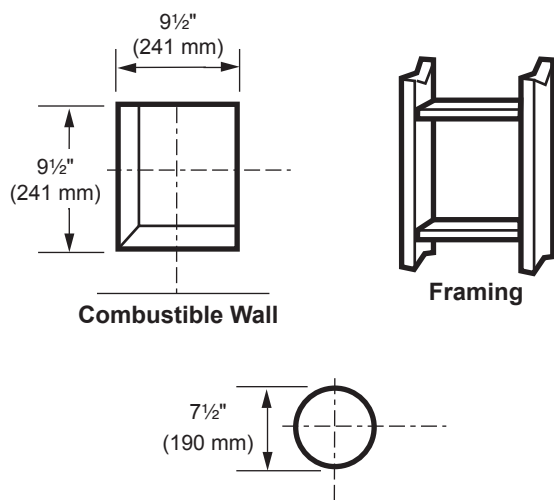

Figure 26 -
Combustible Exterior Walls: Cut a 9½"H x 9½"W (241 x 241 mm) square hole through the exterior wall frame. *Figure 26*
2. The center of the hole should align with the center line of the horizontal rigid vent pipe end. Allow 1/4" minimum rise per foot. *Figure 26*